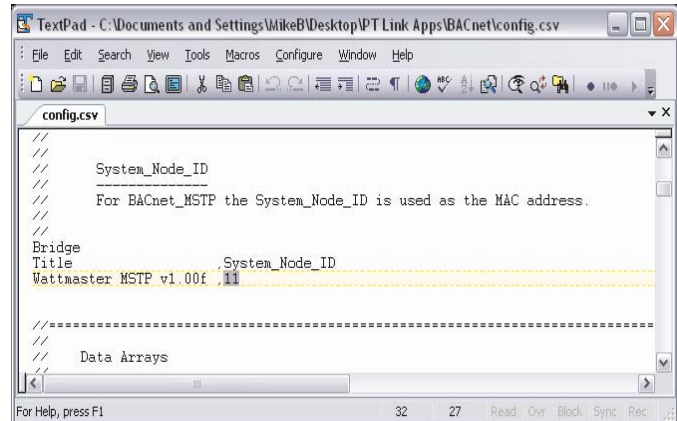

Figure 14: Changing the BACnet MAC address
9.) Inside the text file you can change the System_Node_ID (the BACnet MAC address) which defaults to 11 (**Figure 14**). You can obtain this information from your Building Automation System (BAS) Integrator.